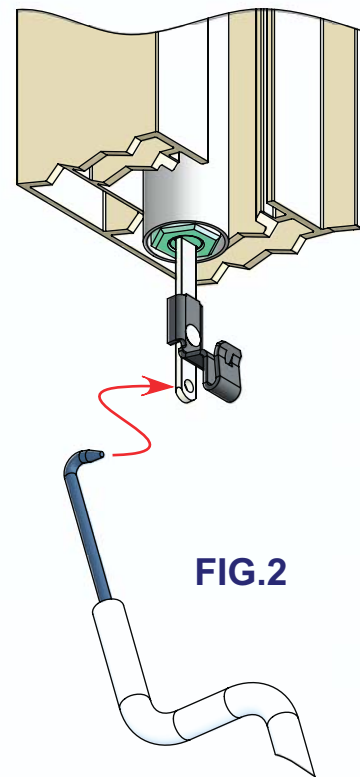
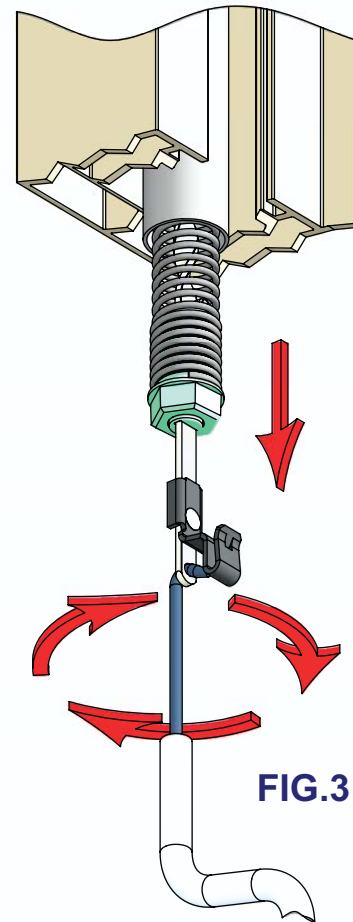

FIG.2
FIG.3
2. ENGAGE ADJUSTING/TENSIONING TOOL WITH LOWER HOLE ON BALANCE ROD AND DISENGAGE ROD FROM PRETENSION ANCHOR BY SIMULTANEOUSLY PULLING AND ROTATING TENSIONING TOOL CLOCKWISE (WHEN VIEWED FROM BELOW). BE CAREFUL NOT TO LOSE PRETENSION TURNS (SEE FIG. 2 and FIG.3).